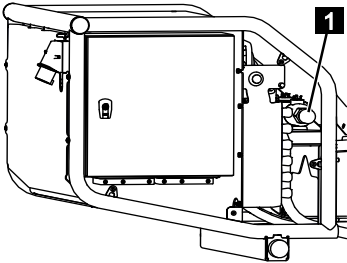

Fig. 179
6. After emergency operation, unlock the valve (Fig.179/1) by turning it anti-clockwise and screw the cover back into place.